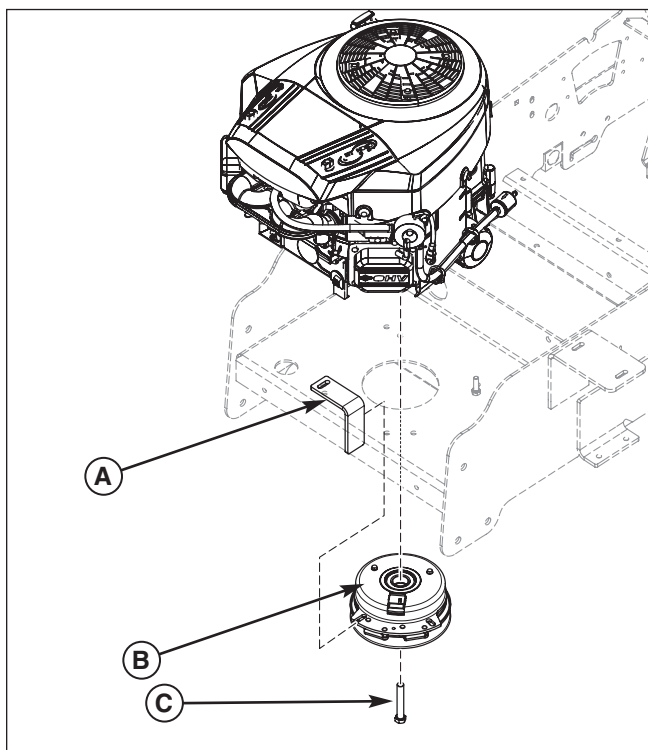

Figure 45. Removing the PTO Clutch
3. Loosen and remove the crankshaft bolt (C, Figure 45) and the PTO clutch (B) from the engine crankshaft.
NOTE: Make sure that the slot in the PTO clutch lines up with the PTO clutch mounting tab (A, Figure 45) underneath the engine deck.